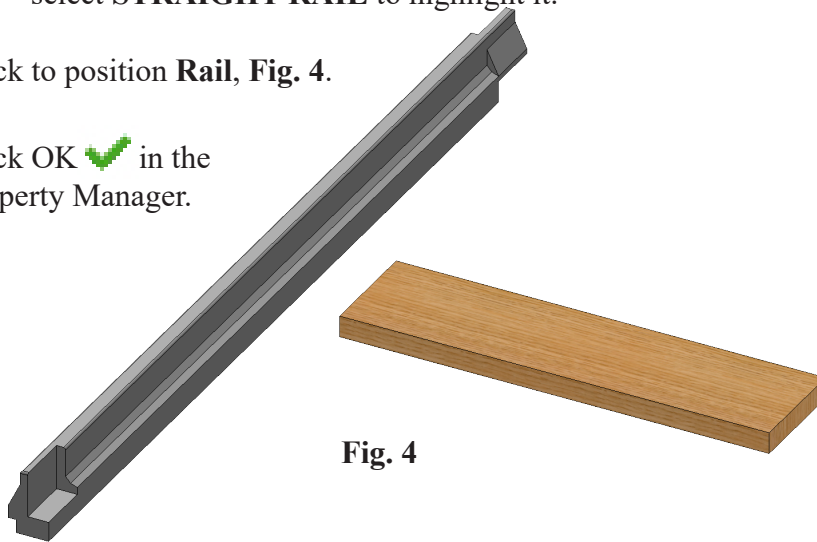

Fig. 4
Step 7. Click to position **Rail**, **Fig. 4**.